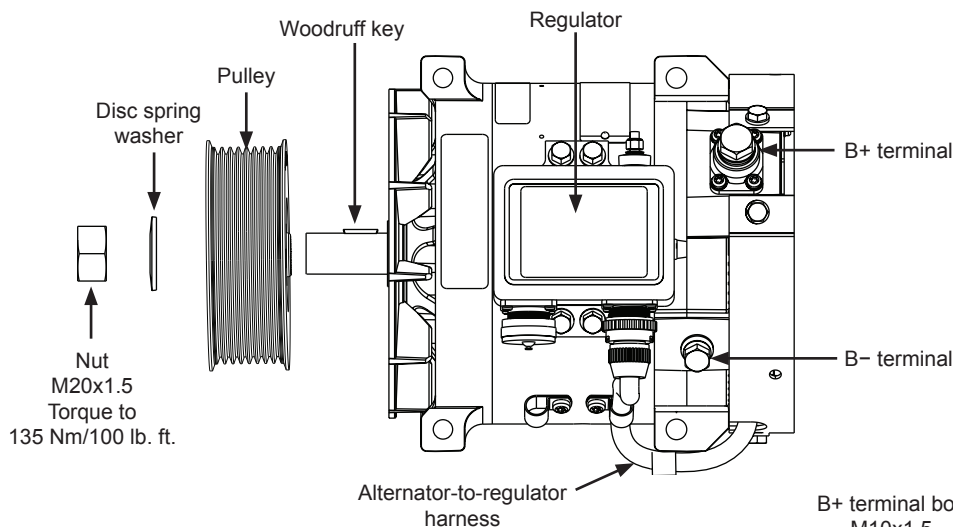
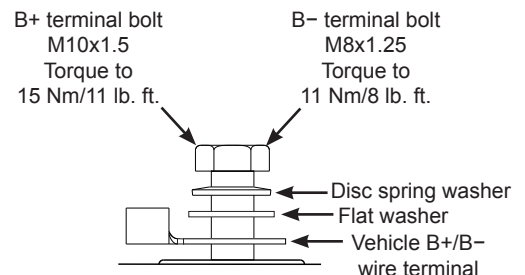

Figure 1: C528/C530/C532 Alternator Connections
Figure 2: B+/B- Terminal Hardware Stacking Order
2. Install pulley and furnished disc spring washer. Torque pulley nut to 135 Nm/100 lb. ft. See Figure 1.
5. Connect B+ battery cable from vehicle to B+ terminal on alternator as shown in Figure 1. Secure it with mounting hardware in stacking order shown in Figure 2 and torque to 15 Nm/11 lb ft.
6. Connect B- battery ground cable to B- ground terminal on alternator as shown in Figure 1. Secure it with mounting hardware in stacking order shown in Figure 2 and torque to 10.8 Nm/8 lb ft.
7. Connect alternator-to-regulator harness to regulator as shown in Figure 1.